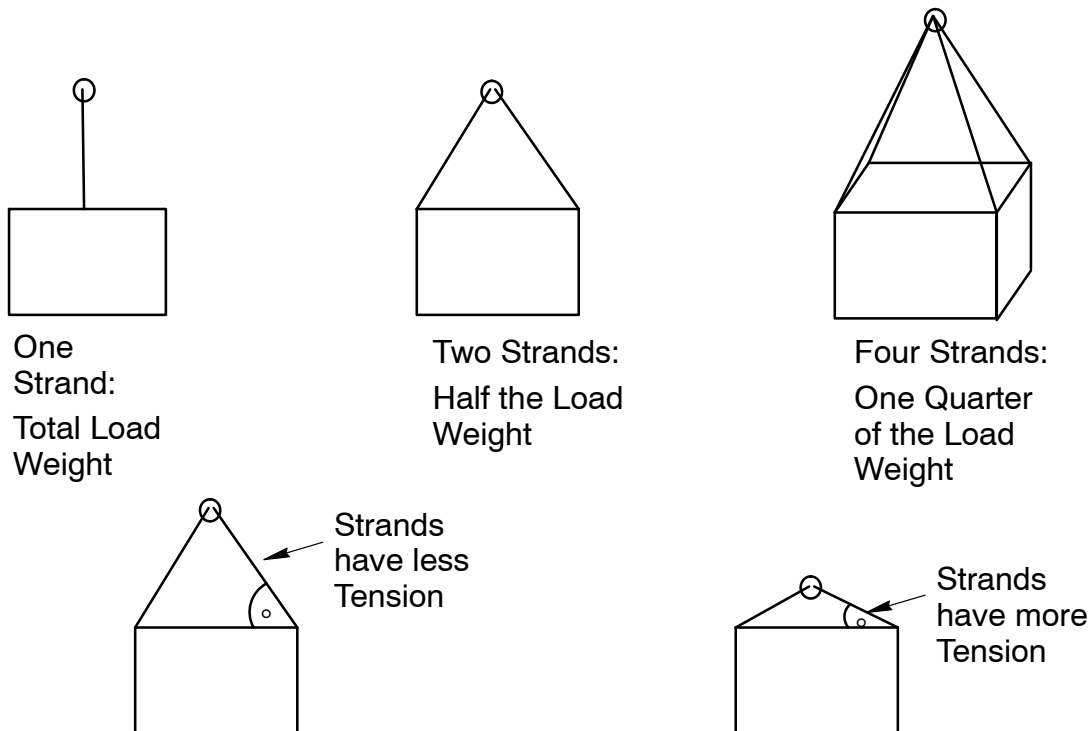

Fig. 3: Strand Angles
- A sling with one strand has the total weight of the load (Fig. 3).